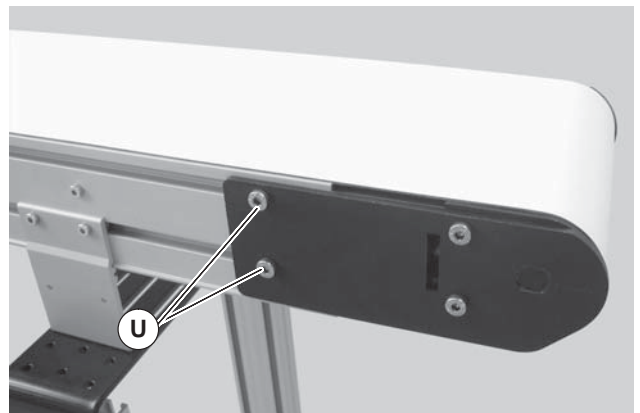

Figure 40
4. Re-tighten the head plate fastening screws (Figure 40, item U) with a 5 mm hex-key wrench to 100 in-lb (12 Nm).